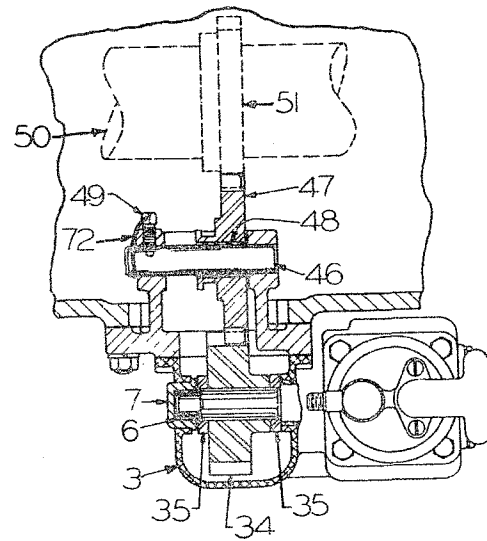

Figure 103. Compressor Drive
Drive gears (47) and (34), Fig. 103, are splash lubricated by the lubricant held in the main transmission case.